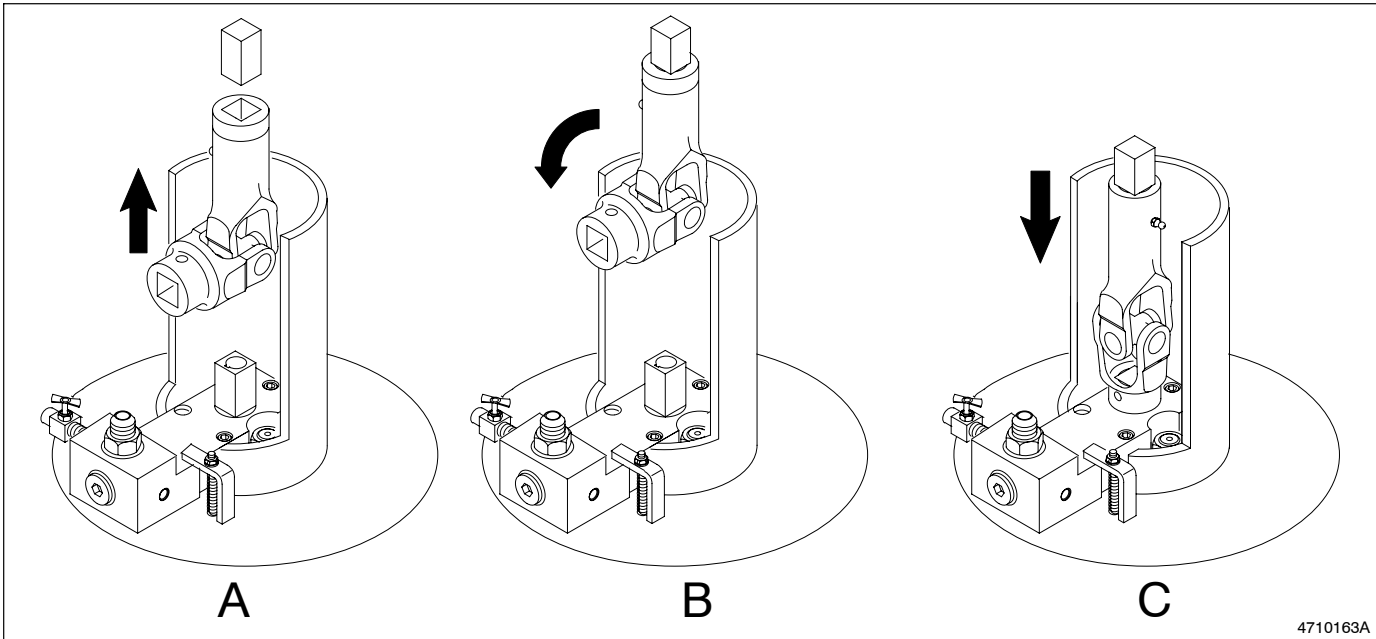

Fig. 7-35 Attaching the Lower Yoke Assembly to the Driveshaft
4. See Figure 7-35. Position the universal joint so that the lower yoke assembly can be slid onto the bottom of the driveshaft. Lower the yoke assembly onto the pump shaft and tighten with the set screw.